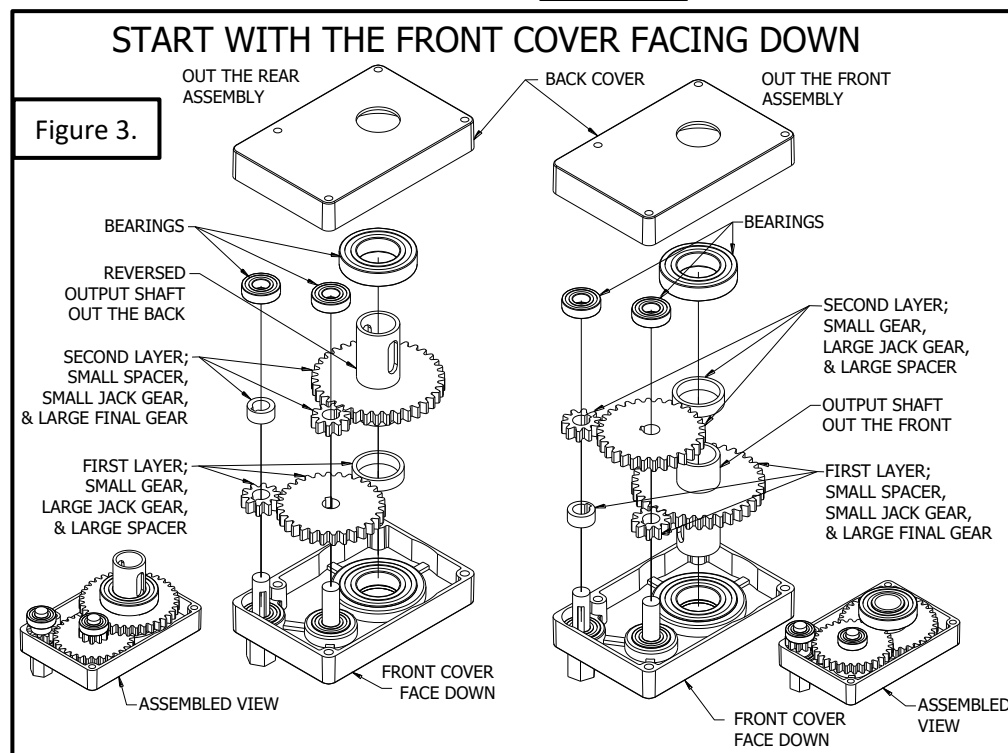

Figure 3.
**Note:** When referring to Figure 3, build each assembly from the bottom up.